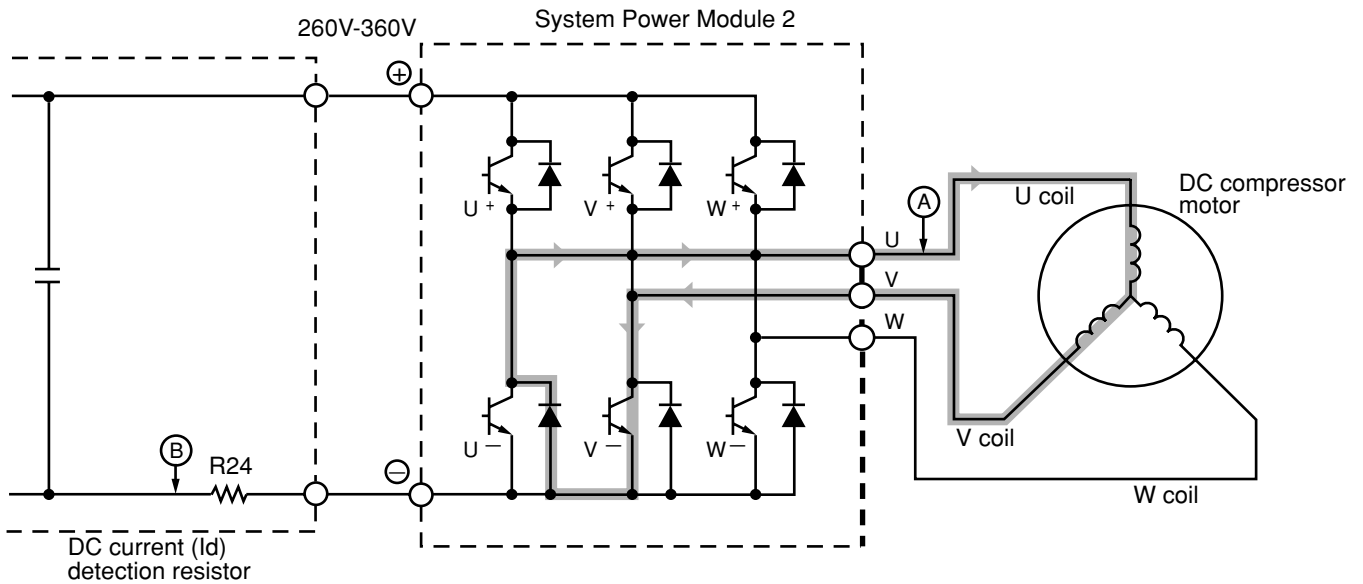

Fig. 3-4 Power module circuit (U+ is ON, V- is ON)
- (2) When U+ transistor is OFF: (by inductance of motor coil) U coil → V coil → V- transistor → Return diode → Point (A) (Fig. 3-4)